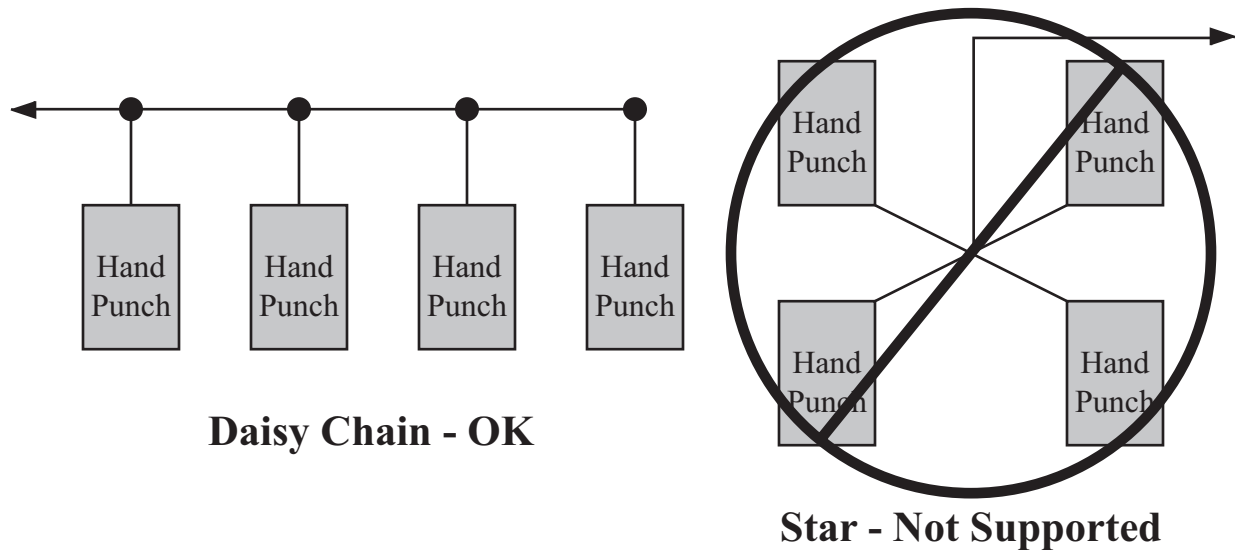

Figure 2-5: Daisy-Chain Versus Star Network Communication Connections
**NOTE** When wiring the RS-422 daisy-chain network, do not wire HandPunch terminals in a “star” network (a network where a number of units are all connected to the network at one, central location – see Figure 2-5).